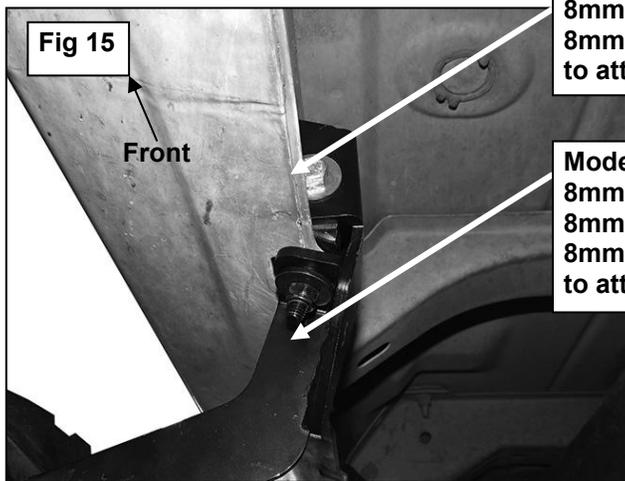

Fig 15
10. Line up the side tab on the Lower Bracket with the threaded hole in the side of the Upper Bracket. Attach the Lower Bracket to the Upper Bracket with (1) 8mm x 25mm Hex Bolt, (1) 8mm Lock Washer and (1) 8mm Flat Washer, **(Figure 15)**. Leave loose at this time. Repeat **Steps 1—3** for the (2) remaining passenger side Bracket installations.